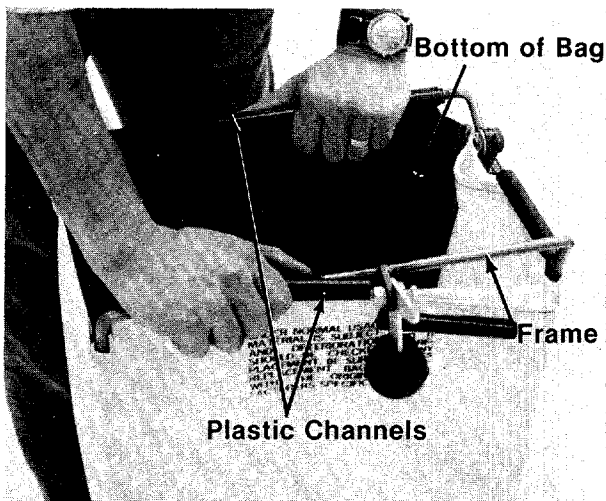

FIGURE 11.
- Secure bag to frame by slipping plastic channels on bag over frame. See figure 11.